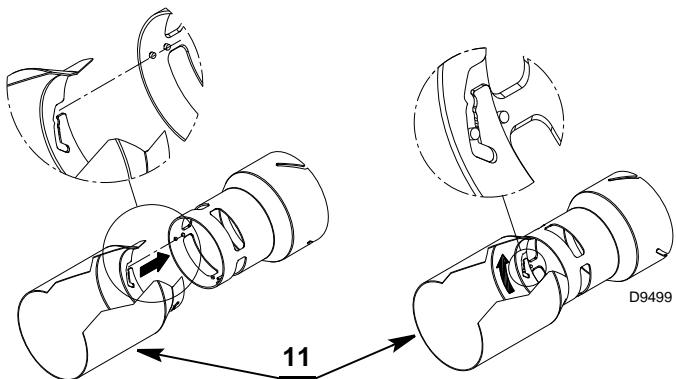

Fig. 29
- Fix the sleeve 11) (Fig. 29) following the indications in the figure.